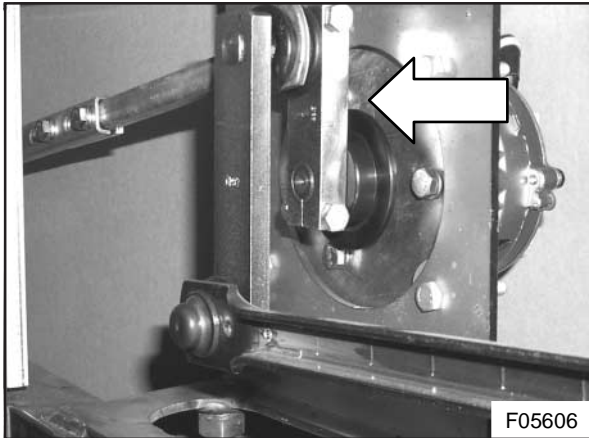

Figure 14 : Bell crank and clamp in a vertical position (left tie bar down)
- 17) Using the ignition switch, activate the wiper motor, until the bell crank and clamp are in a vertical position (see Figure 14 - for the sake of clarity picture has been taken from the front of the coach). Turn wiper switch off again.